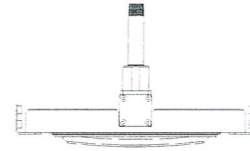

Figure 6
- ☞ Tighten tube locking setscrew to conduit, 1.0 N-m. (Figure 6)